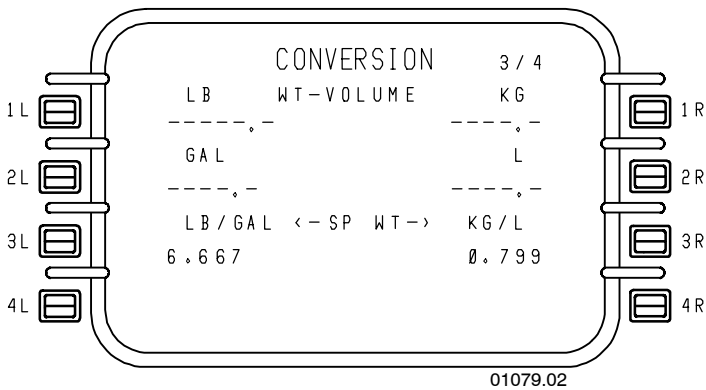

Figure 6-155
- **CONVERSION 3/4** – Figure 6-155 provides conversion between English and metric units for weights and volumes. The conversion is based upon a specific weight which is displayed on the page. The specific weight can be changed by the pilot.